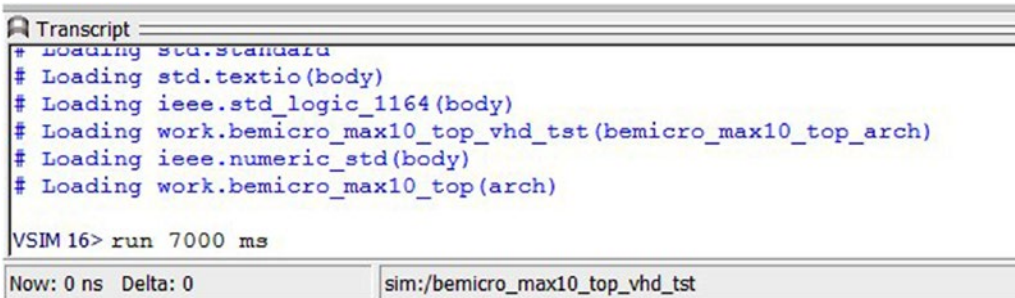

Figure 4-48. Run the simulation for seven seconds
12. Enter the following command in Transcript window and hit enter (Figure 4-48). You can switch to the Wave window to look at the output. Expand the scanningLED bus in the main area of the window (click the “+” next to it to make it “-”) so you can see the LED outputs plotted individually. After doing this, wait for the simulation to complete. Depending on how fast your computer is, this may be a good time for a coffee break.